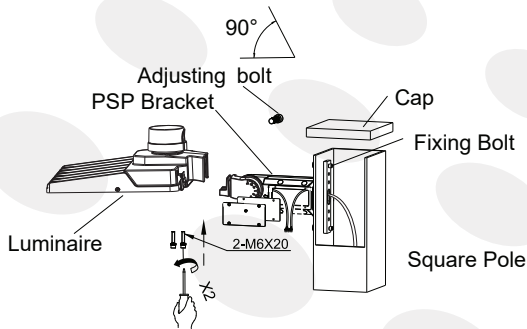

Figure 2
Step 2: Fix PSP bracket to square pole with bolt, open the cover of PSP bracket junction box, Snap the light fixture into the PSP bracket and lock the screws, pull the wire into bracket junction box, connect the wire properly and cover the junction box. (Figure 2)
Notice: Adjustable angle is 0-90° (Figure 2)